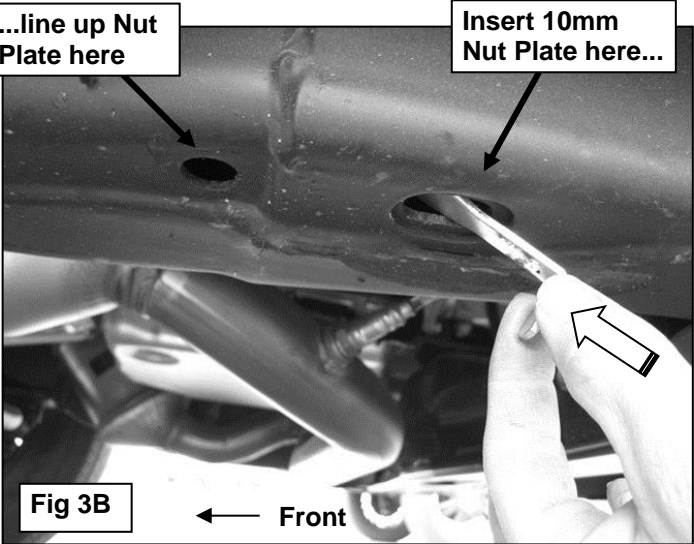

Fig 3B
3. Locate the two factory holes in the bottom of the frame towards the front of the vehicle. Insert (1) 10mm Nut Plate, **(Figure 3A)**, into the oval hole and line up the threaded nut with the forward round hole, **(Figure 3B)**. **NOTE:** Nut Plate and Support Bracket are not required on 2011-12 25-3500 models.